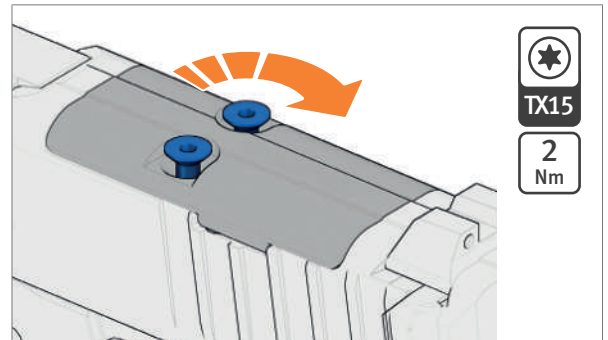

Fig. 41: Tighten screws
4. Tighten screws until the torque is reached (*Fig. 41*).